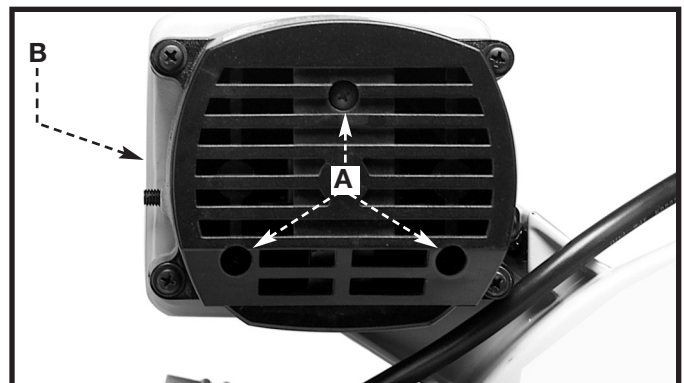

Fig. 54
1. Remove the three screws (A) Fig. 54 and remove the motor cover (B).